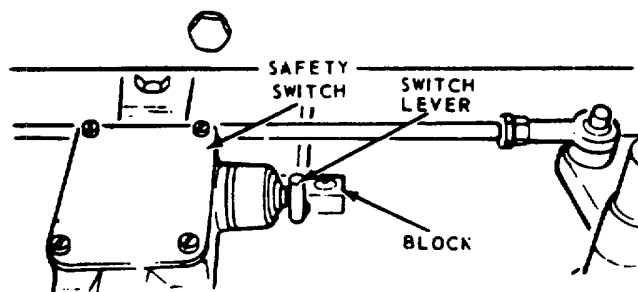

FIGURE 104
- (1) See Figure 104. Push STOP switch.
- (2) Use 1/8-inch (3 mm) hex wrench to loosen Block holding Switch Lever.
- (3) Move Block toward Switch until Switch clicks lock Block in this position.